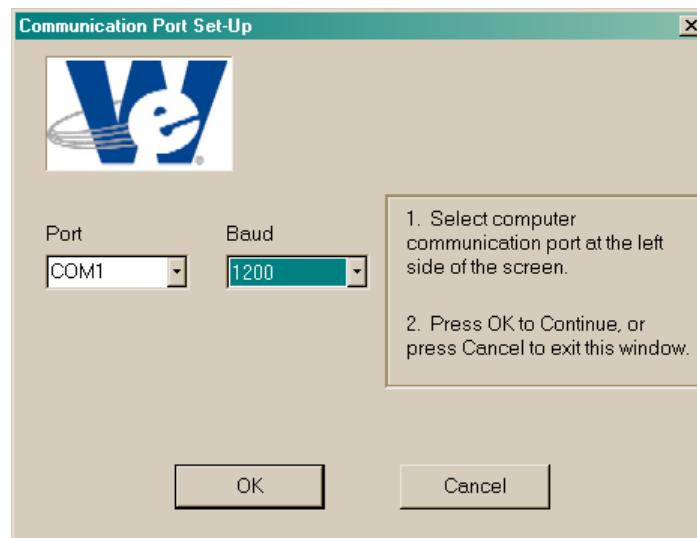

Figure 37
**File:** The first selection found on the menu is **File**. In order to access a feature/command under the **File** menu item, the user would need to maneuver the mouse pointer over the word **File** and click one time with the mouse button. This will drop down the **File** menu choice revealing **Port Set-Up**, **Connect**, **Disconnect**, and **Exit**. Refer to Figure 37.